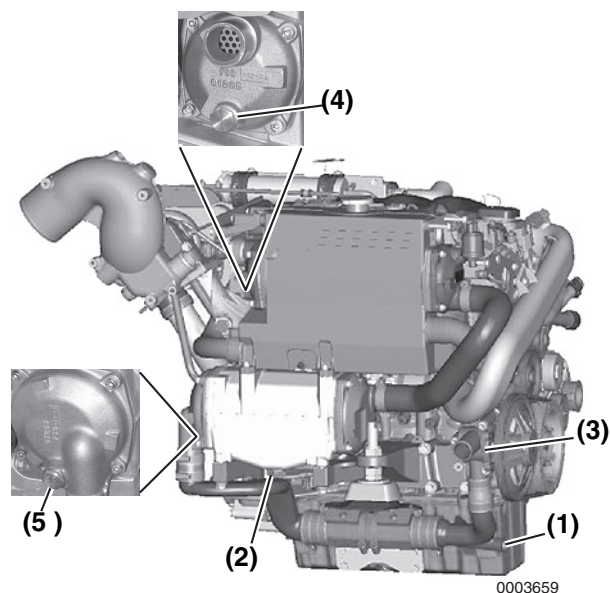

Figure 7-4
1. Open the lower seawater drain cock (**Figure 7-4, (1)**) located in the piping between the seawater pump and hydraulic oil cooler. Allow to drain.
2. Open the drain cock (**Figure 7-4, (2)**) on the bottom of the charge air cooler.
3. Loosen the seawater pump cover (**Figure 7-4, (3)**) to allow water to drain. *See Seawater Pump on page 7-18.*
5. Remove zinc anodes from the engine heat exchanger (**Figure 7-4, (4)**) and charge air cooler (**Figure 7-4, (5)**) and allow water to drain from housings.